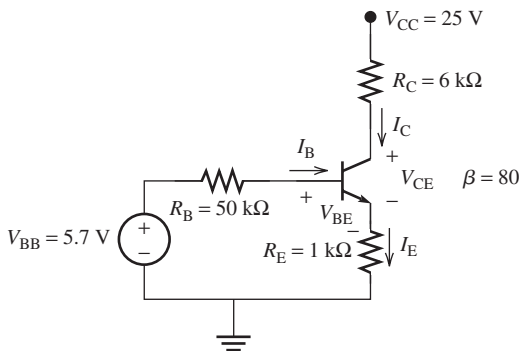

FIGURE P8.39 Circuit for Problem 8.39.
- 8.39 (A) For the circuit shown in Figure P8.39, find V_{BE} , I_B , I_C , and V_{CE} .